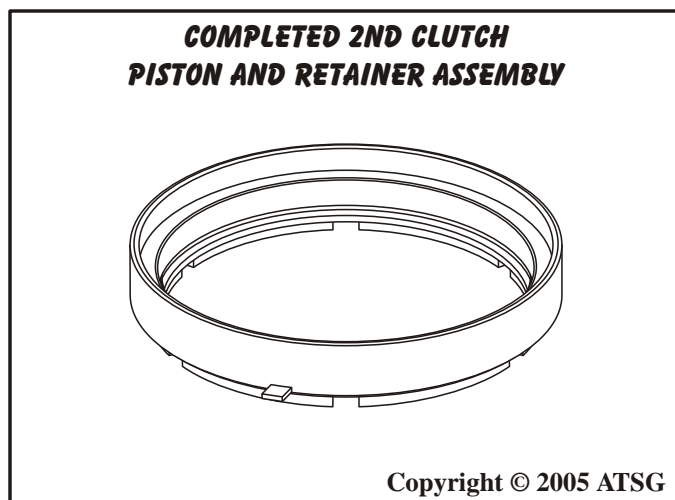

Figure 108
8. Set completed 2nd clutch piston and retainer assembly aside for the final assembly process, as shown in Figure 108.